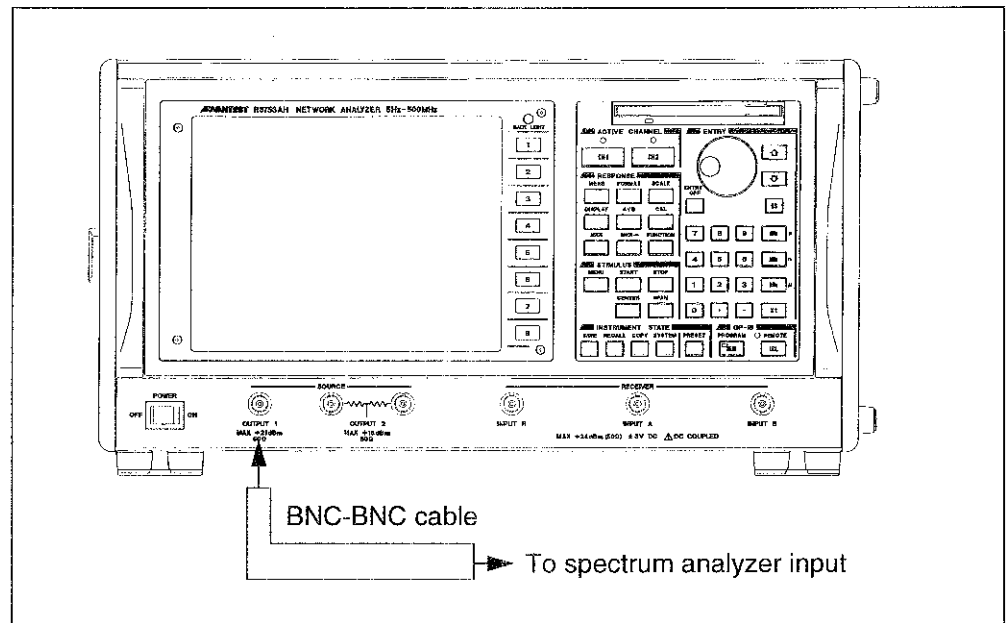

Figure 5-4
- ① In order to measure the spectrum purity, connect the R3753H series and the spectrum analyzer, R3265A as shown in Figure 5-4.